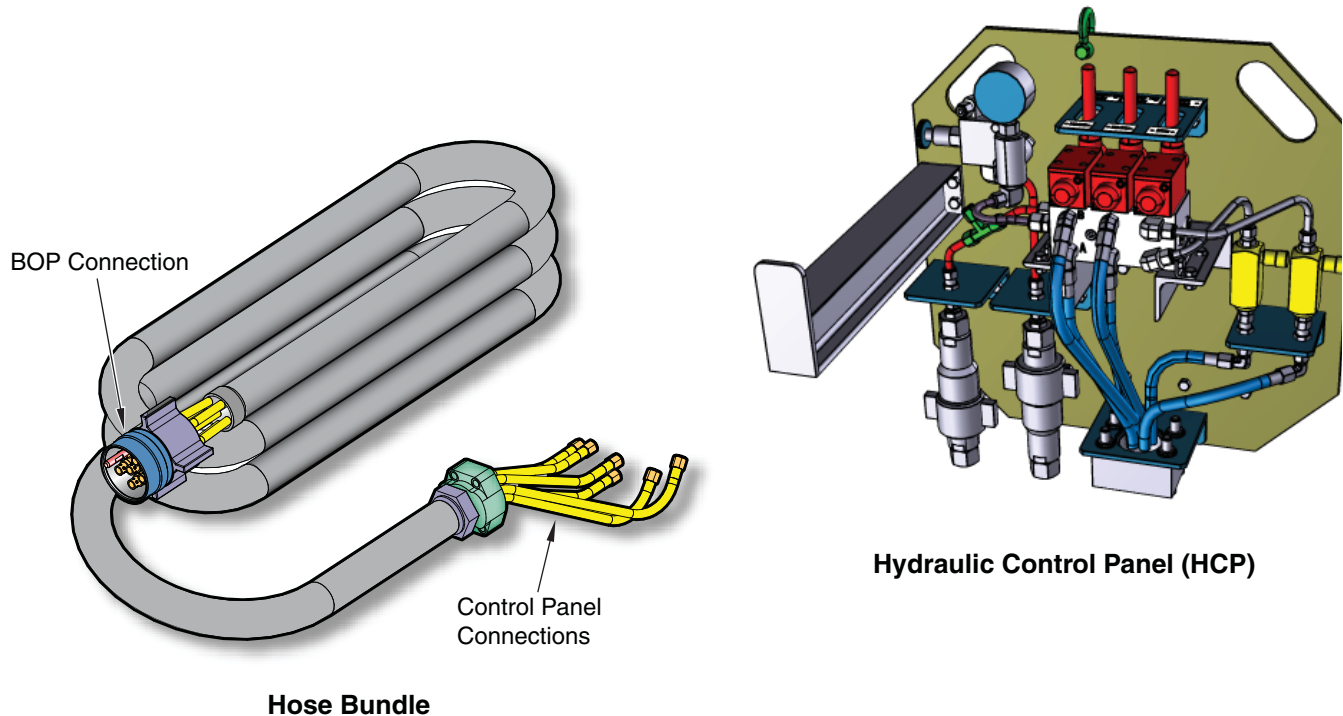
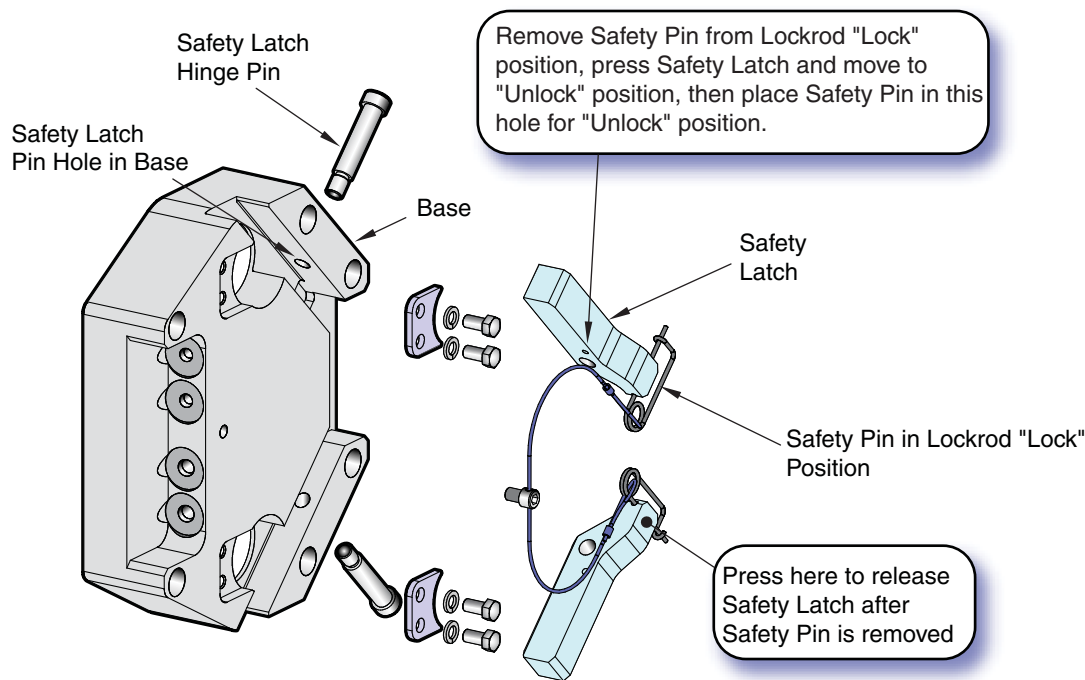
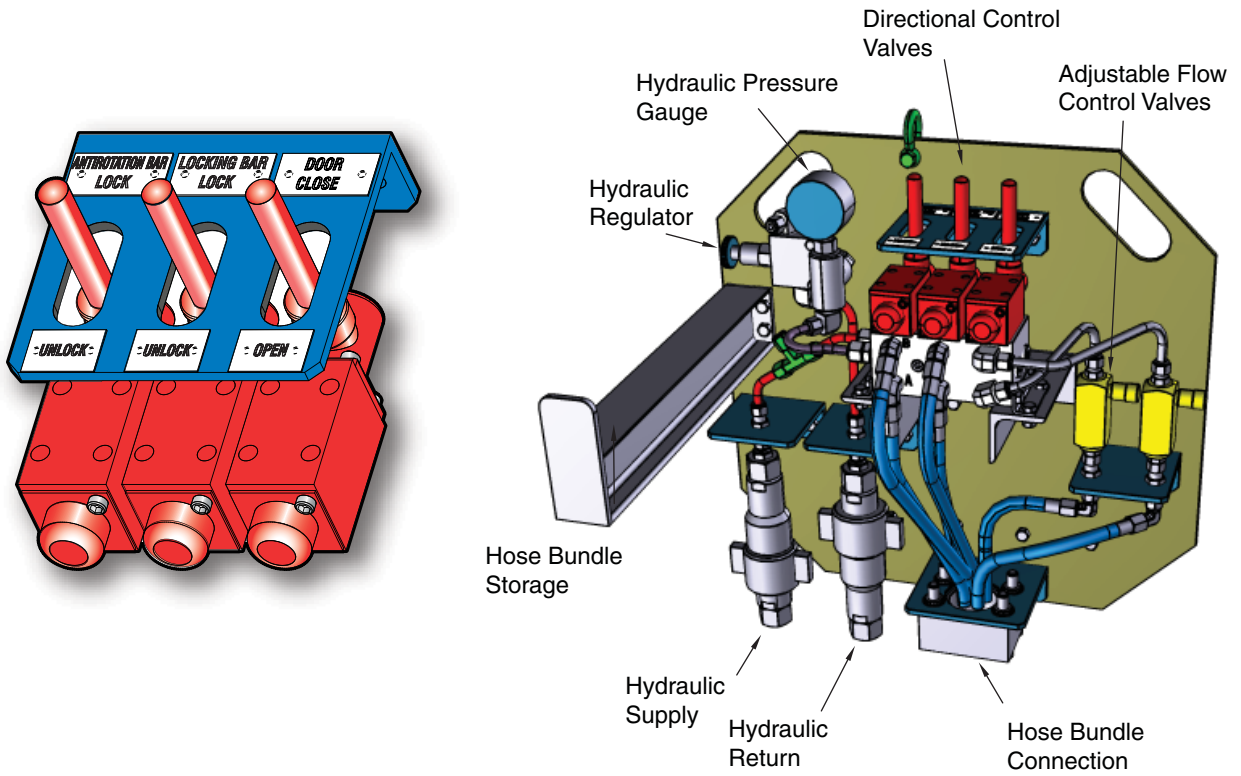
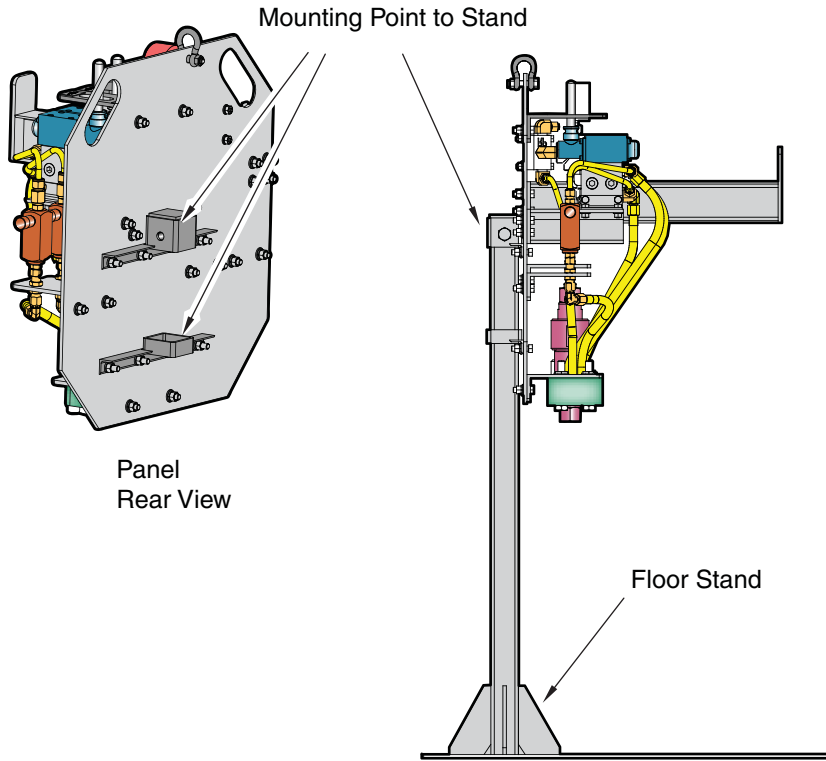

Figure 4-6. Manifold with 6-Hose Bundle
Figure 4-7. 22" Door Lockrod Safety Latches
Figure 4-8. Hydraulic Control Panel (HCP)
Figure 4-9. Door Control Panel Mounting Detail
Except for a Lockrod Safety Latch (see Figure 4-7 on page 4-22) that must be manually released on each 22" door assembly before it can be opened, the door locking system (opening and closing of the BOP doors) is controlled with the BOP stack-mounted Hydraulic Control Panel (HCP) (see Figure 4-8 on page 4-23). The HCP is hydraulically powered by a rig-supplied hydraulic source. A hose bundle connects the HCP to each door being unlocked and opened (see Figure 4-6). Quick-connect fittings on the end of the hoses, for the lockrod drive hydraulic connections, and the quick-connect manifold assembly on the door facilitate this process. The quick-connect fittings are two different sizes and genders to prevent improper connections. The HCP can be positioned in one of several positions on the BOP Stack depending on which BOP ram door is being serviced (see Figure 4-9 on page 4-24).
Opening and closing the 14" UltraLock doors and 22" PosLock doors requires the use of the HCP (see Figure 4-6). However, the upper and middle 22" doors with 22" PosLock operators do not have hydraulically operated anti-rotation bars, and do not use the "Anti-Rotation Bar" function on the HCP (see Figure 4-8 on page 4-23). The 22" doors use safety latches as an anti-rotation device, which must be manually operated (see Figure 4-7 on page 4-22).
2. Position the HCP such that the hose bundle will reach the BOP doors to be serviced (see Figure 4-9 on page 4-24).
4. On the Lockrod Drive of the 22" door being serviced, remove the safety pin, and then rotate the safety latch from the Lock position to the Unlock position (freeing the lockrod) as shown in Figure 4-7 on page 4-22.
6. Connect rig hydraulic power supply and return hoses to 1" quick-disconnect fittings on the HCP (see Figure 4-8 on page 4-23).
8. Using the HCP hydraulic regulator, adjust hydraulic pressure to 3,000 psi (207 bar). Monitor pressure on gauge (see Figure 4-8 on page 4-23).
The door should open with a slow, smooth action. The speed that the door opens and closes can be regulated by the "Adjustable Flow Control Valves" located on the HCP (see Figure 4-8 on page 4-23).
12. To close the 22" door assembly, reverse the preceding instructions. To prevent the door lockrods from rotating, manually move the safety latches into the Lock position, and install the safety pins (see Figure 4-7 on page 4-22).